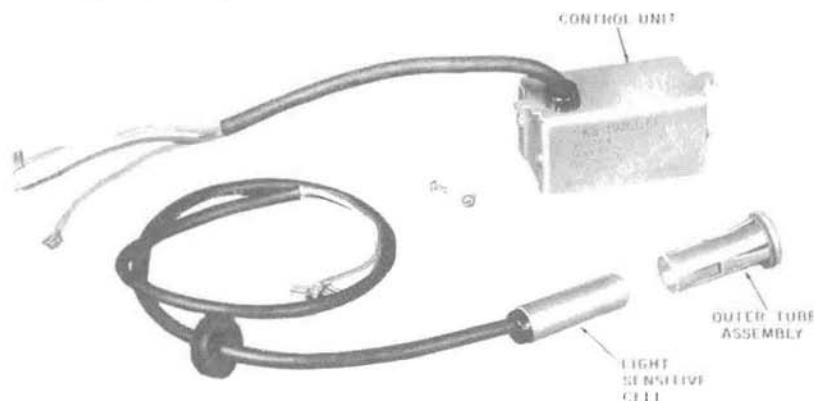
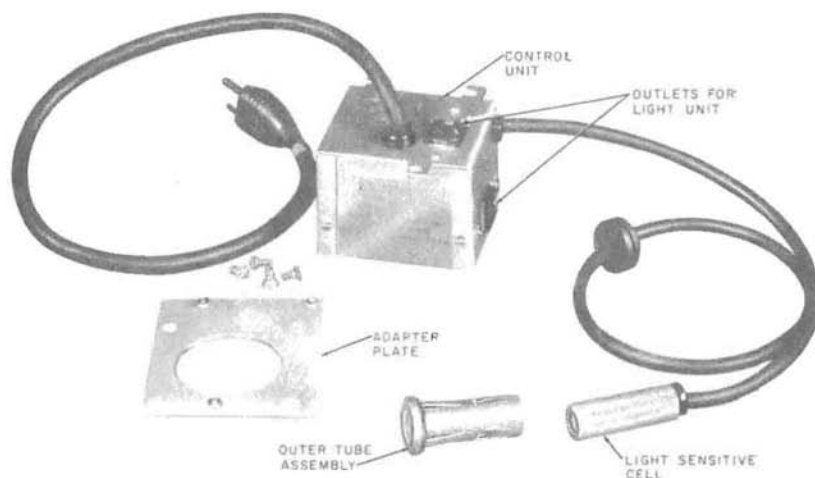
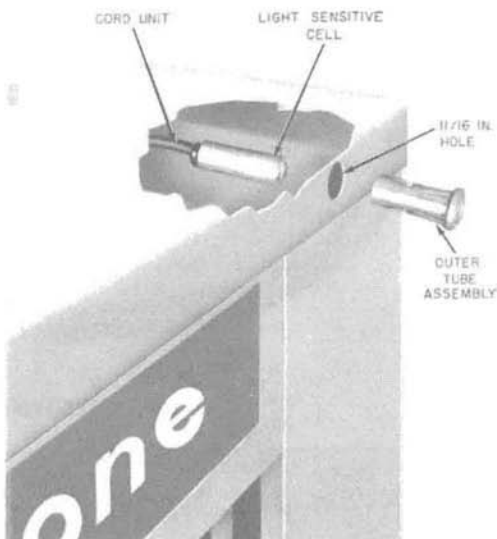

Fig. 1—KS-19261, List 1 Light Control Unit
Fig. 2—KS-19261, List 2 Light Control Unit
Fig. 7—Method of Installing Light Cell
2.03 The KS-19261, List 1 light control unit (Fig. 1) is used in outdoor booths equipped with a KS-19207 light and blower unit.
2.04 The KS-19261, List 2 light control unit (Fig. 2) is used in outdoor booths equipped with light units other than a KS-19207 light and blower unit.
- (e) Insert outer tube assembly (Fig. 1) through 11/16-inch hole in roof from outside until tabs lock behind edge of hole (Fig. 7).
- (i) Place outer tube assembly (Fig. 2) through roof hole from outside until the tabs lock behind edge of hole (Fig. 7).
- (l) Place outer tube assembly through roof hole from outside until tabs lock behind edge of hole (Fig. 7).